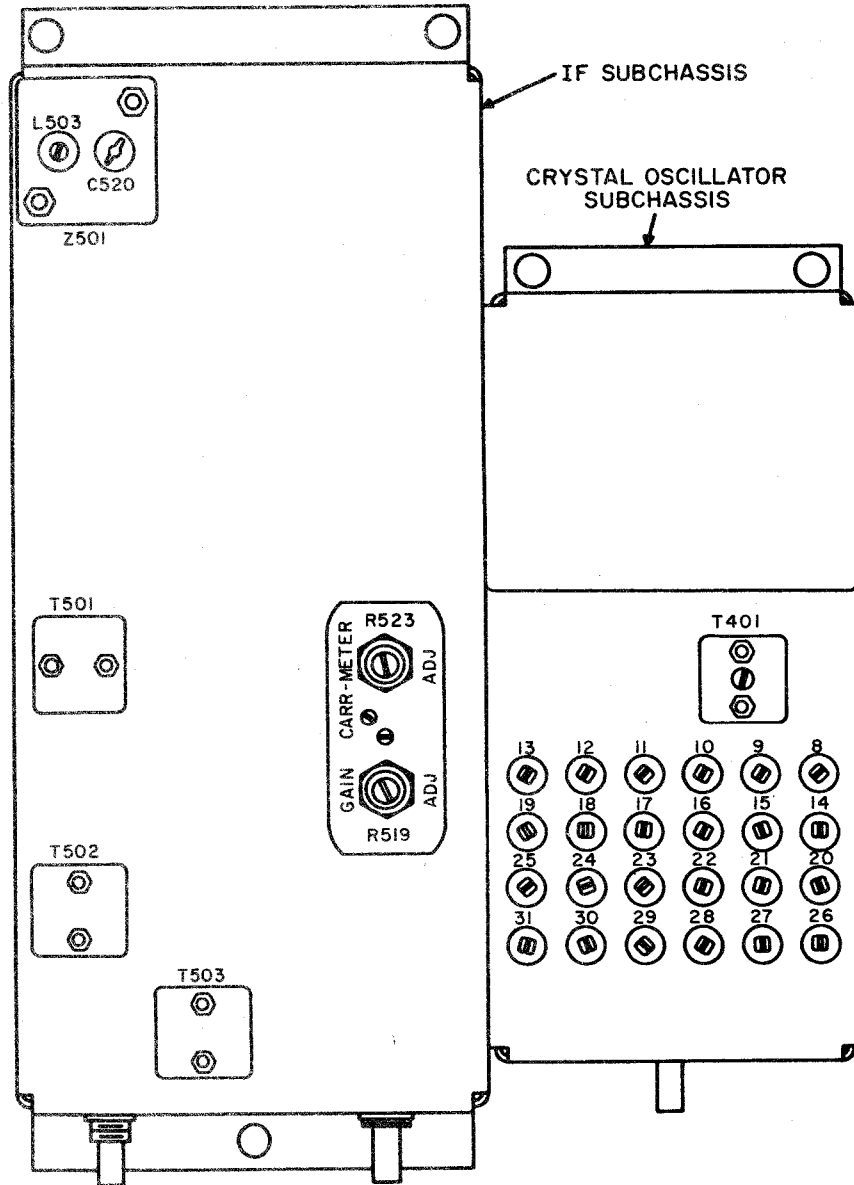

Figure 6-5. Crystal-Oscillator and IF Subchassis Alignment Points
6.2.9 Crystal-Oscillator Subchassis Trimmer Alignment. (See figure 6-5.)
6.2.17 Crystal Filter Neutralizing. (See figure 6-5.) Capacitor C520 in tuned circuit Z501 usually needs adjustment only when part or all of Z501 is replaced or when C520 is turned accidentally. Proceed as follows: